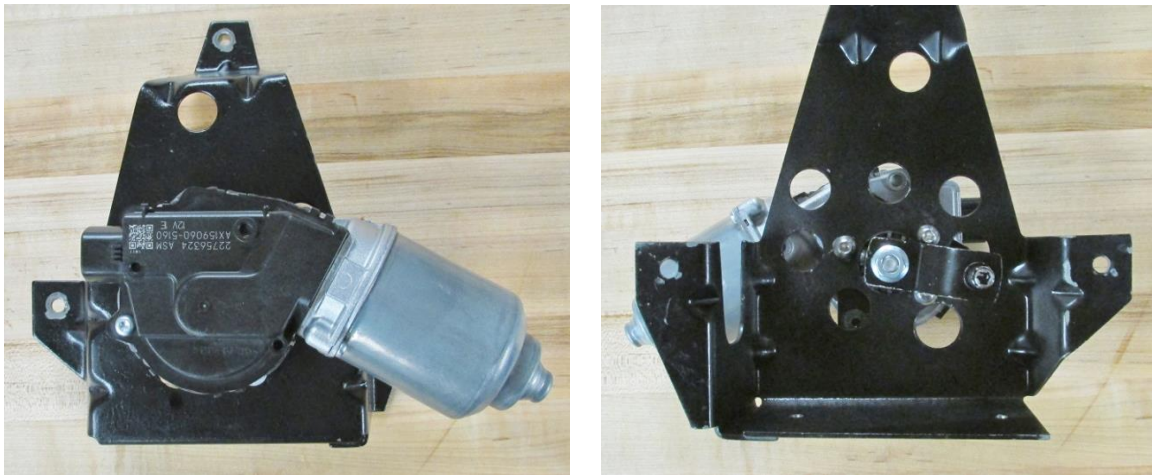

Figure 6 - Wiper Motor
9. Mount the new wiper motor assembly to the factory mounting bracket with the wiper motor adapter in between the wiper motor and the mounting bracket. Use the provided 1/4"-28 x 3/8" L button head screws and tighten (Figure 6).